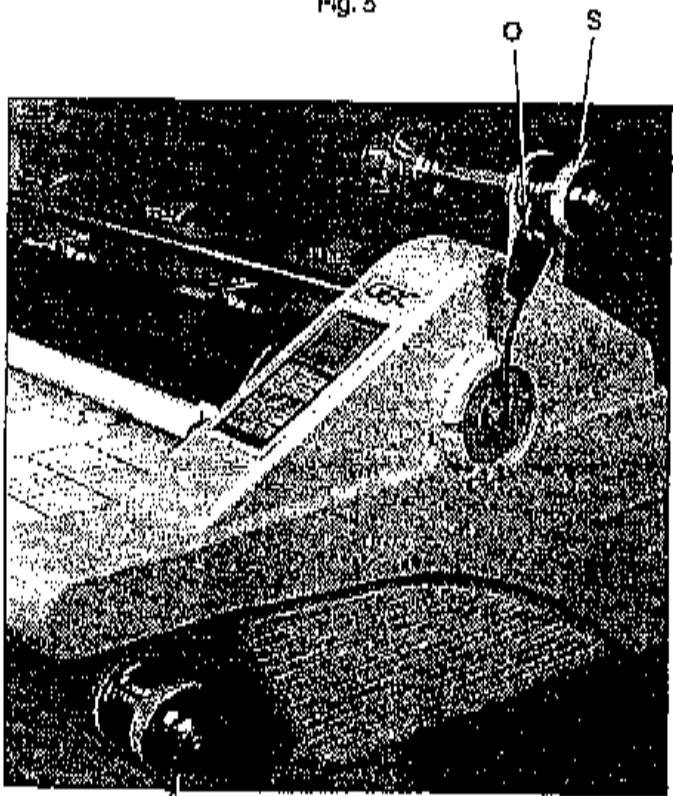

Fig. 6
O. ROLLER PRESSURE HANDLE: Figure 6. Adjusts the amount of roller pressure needed for various laminating thickness. There are four thickness settings:
S. FILM TENSION ADJUSTMENT: Allows the operator to increase or decrease film web tension as needed to reduce curl and wrinkles, (Figure 6).